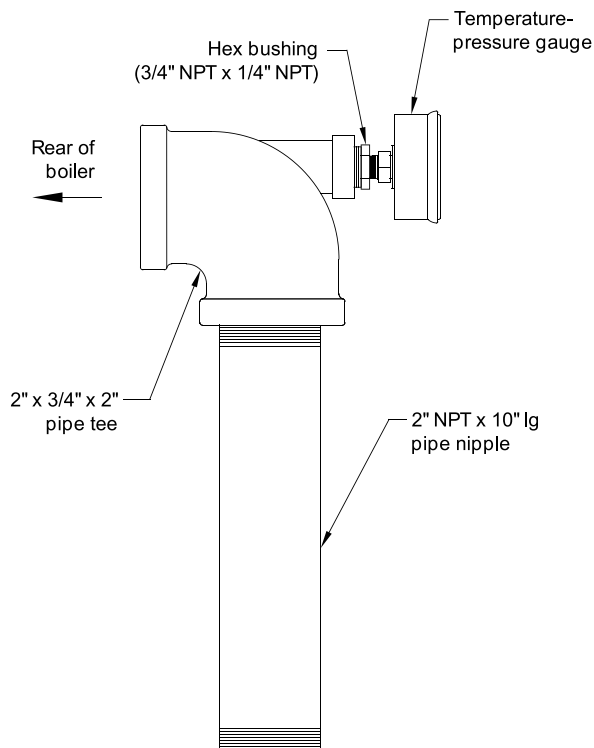

Figure 3-5: Alternate Temperature-Pressure Gauge Installation
- Alternate Temperature-Pressure Gauge Piping. See Figure 3-5.